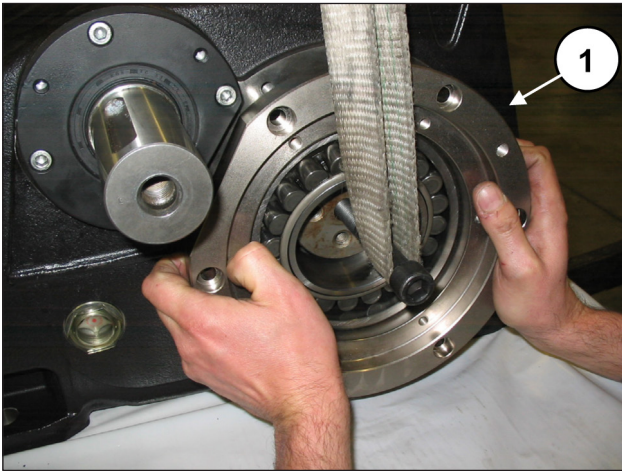
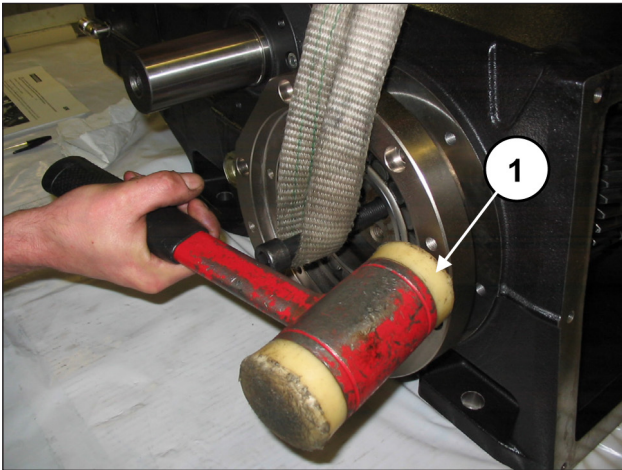

Fig. 73
Fig. 74
Apply two M16 threaded pins to the end of the crankshaft and, while keeping it raised (pos. ①, Fig. 73), insert the bearing support cover complete with bearing and O-ring (pos. ①, Fig. 74) using an extractor hammer. Repeat the operation on the other side